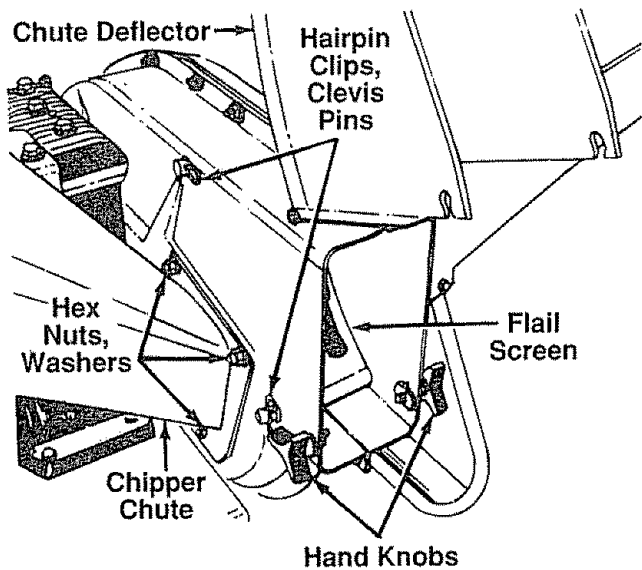

FIGURE 18.
- Remove two hairpin clips from the clevis pins which extend through the housing. Remove the clevis pins. Lift the flail screen from inside the housing. See figure 18.
NOTE: Be certain to reassemble the flail screen with the curved side down as shown in figure 18.
- Remove the chipper chute by removing three hex nuts and washers. A 1/2" wrench is required. See figure 18.
Make certain blades are reassembled with the sharp edge facing the direction shown in figure 18 (sharp edge is assembled toward the slotted opening in the impeller assembly).